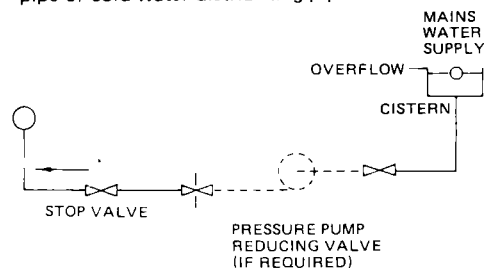

Figure 7 FULLY PUMPED SEALED SYSTEM
- ii) Where access to a make-up vessel would be difficult by using the mains top up method or a remote automatic pressurisation and make-up unit as illustrated in Fig 7 METHODS 1 & 2.
(approved by the National Water Council) to be fitted in this order from the system mains. refer to Fig 7 METHOD 1.